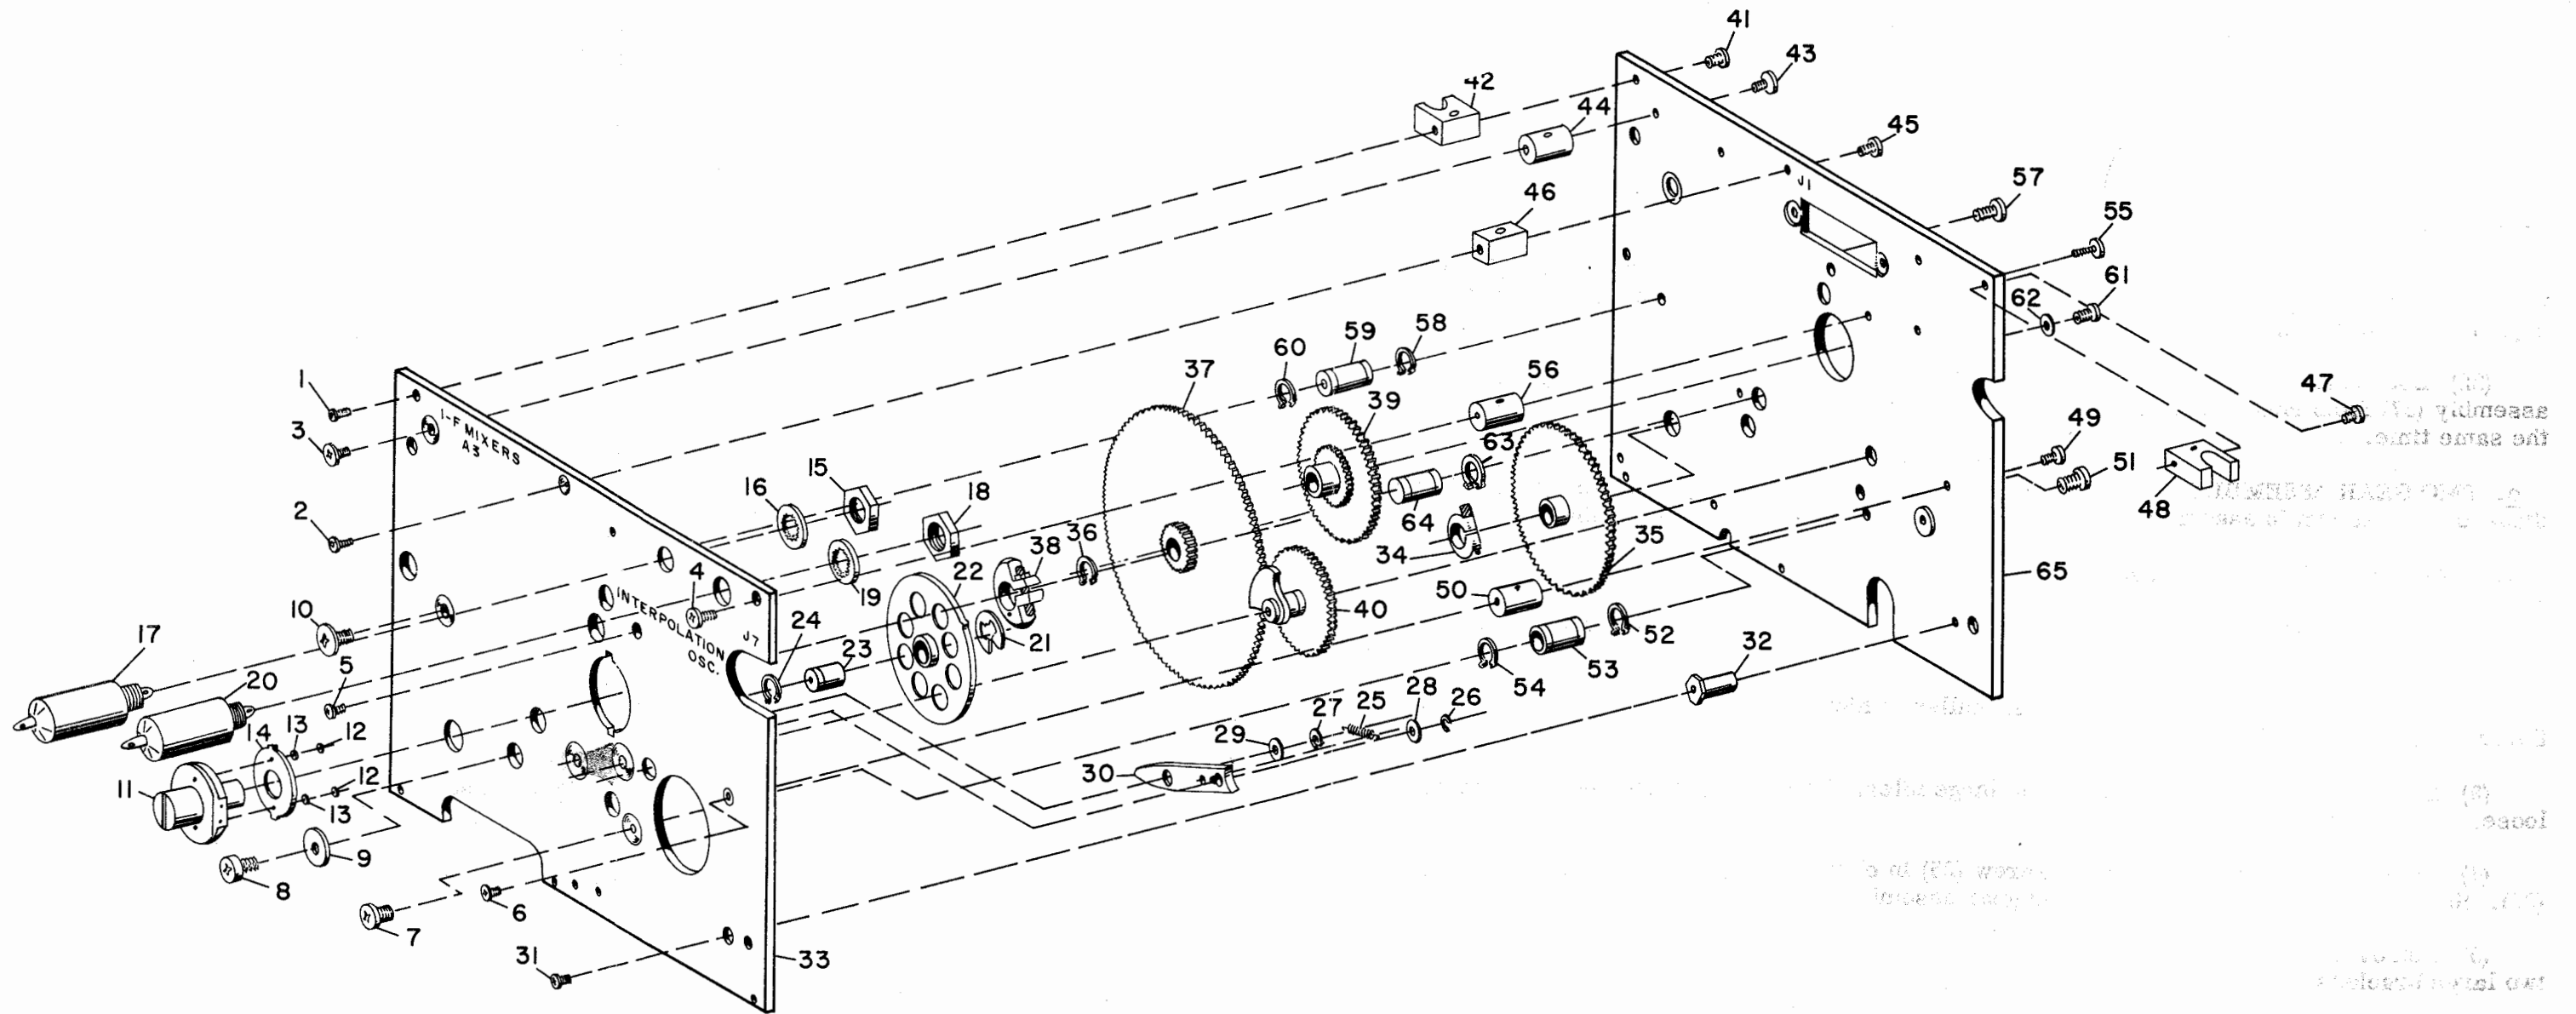
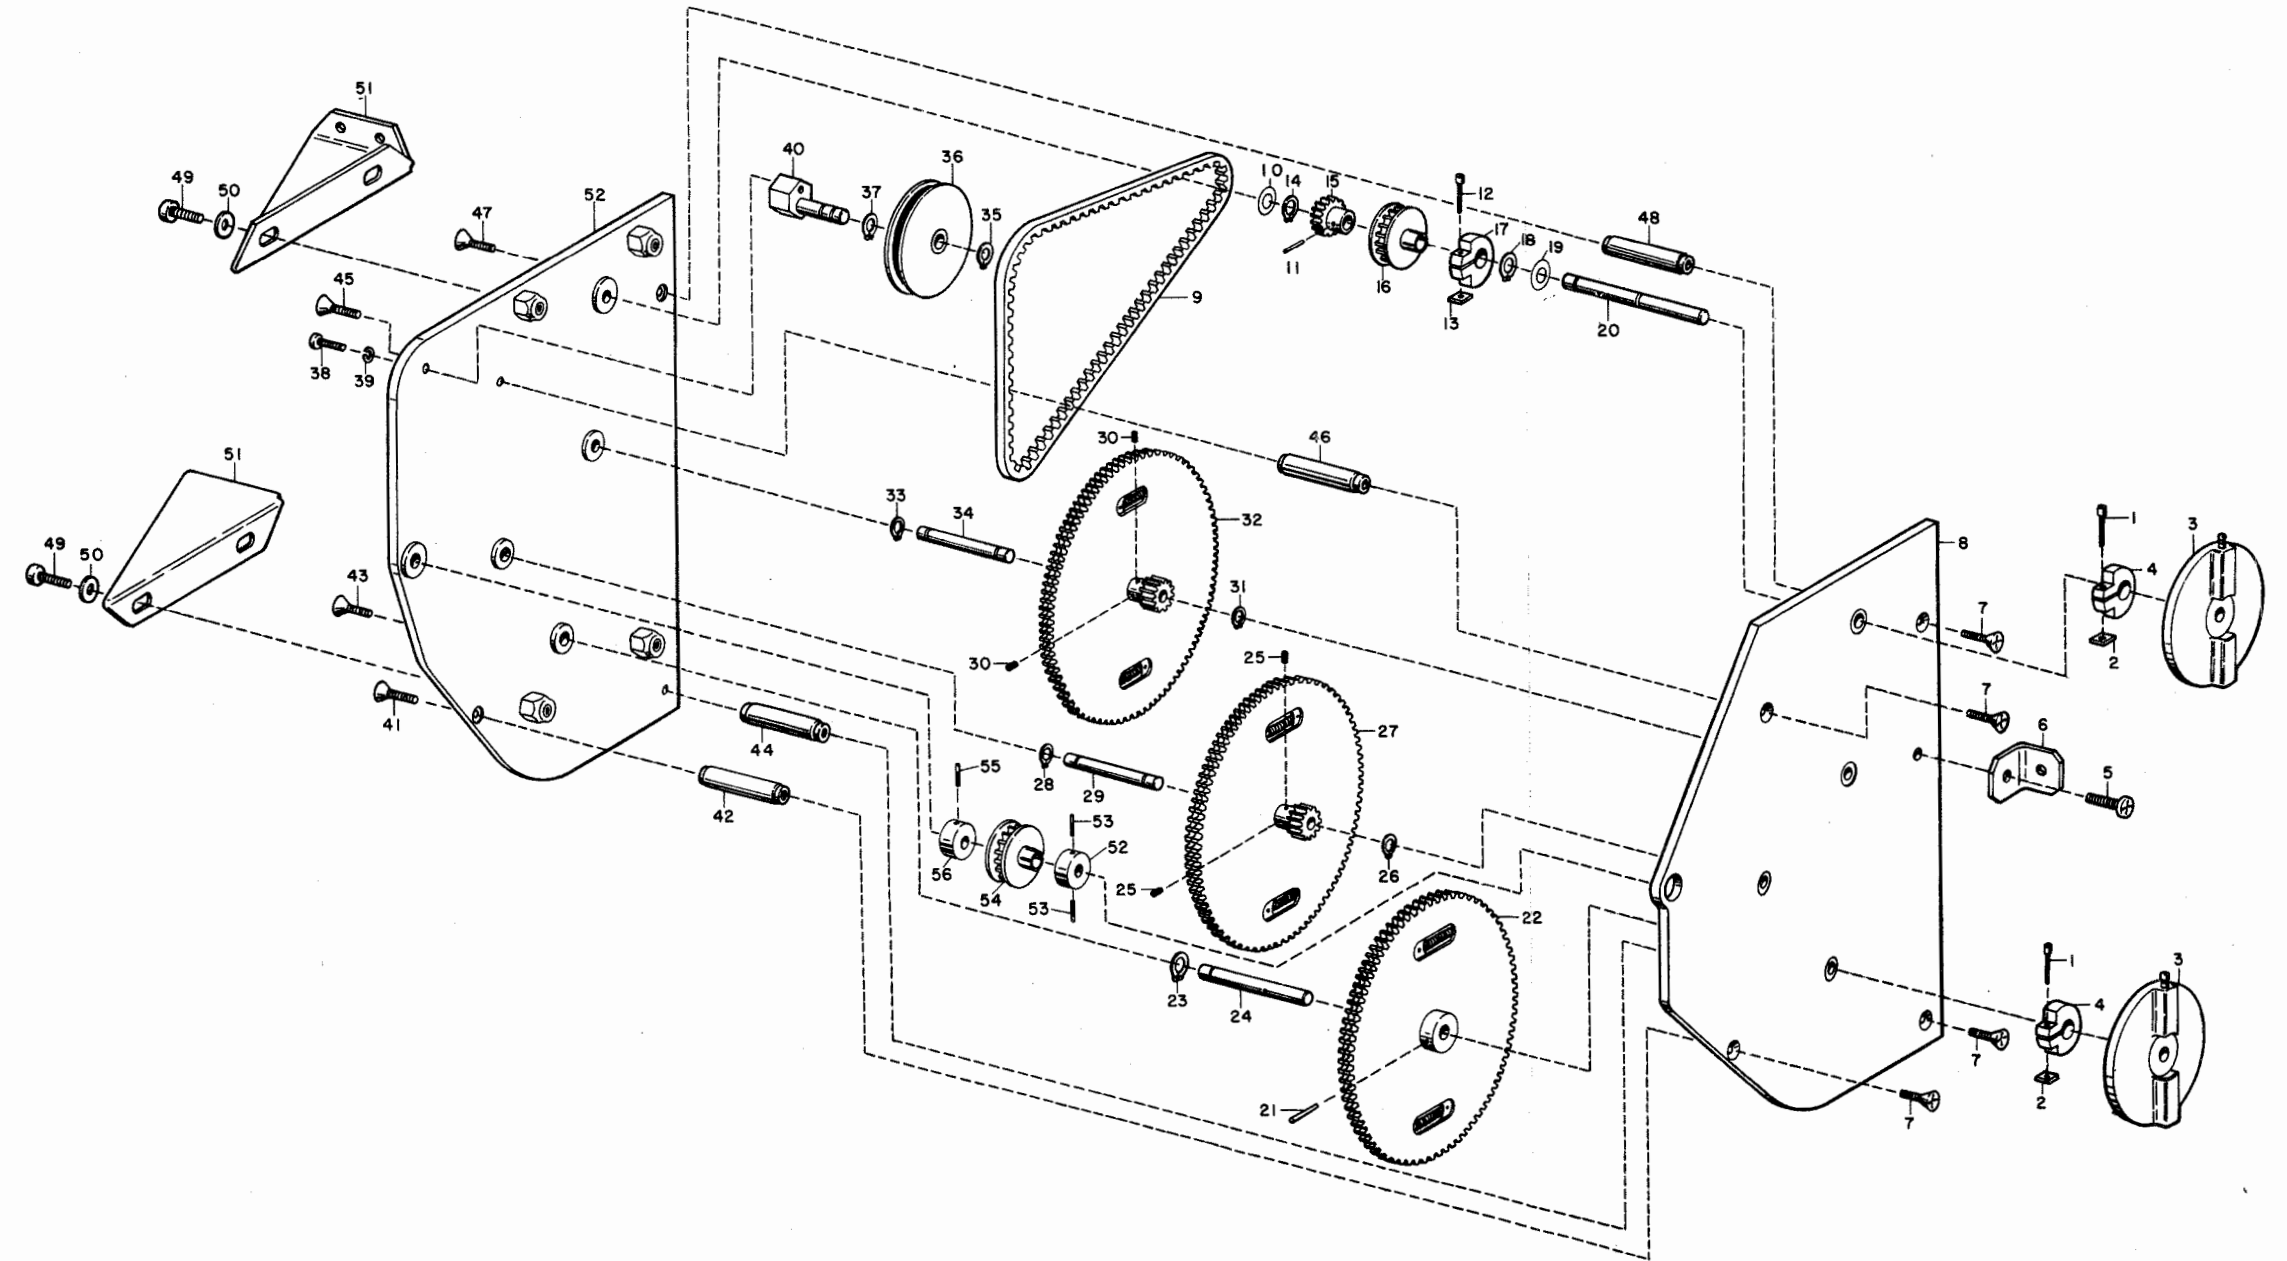
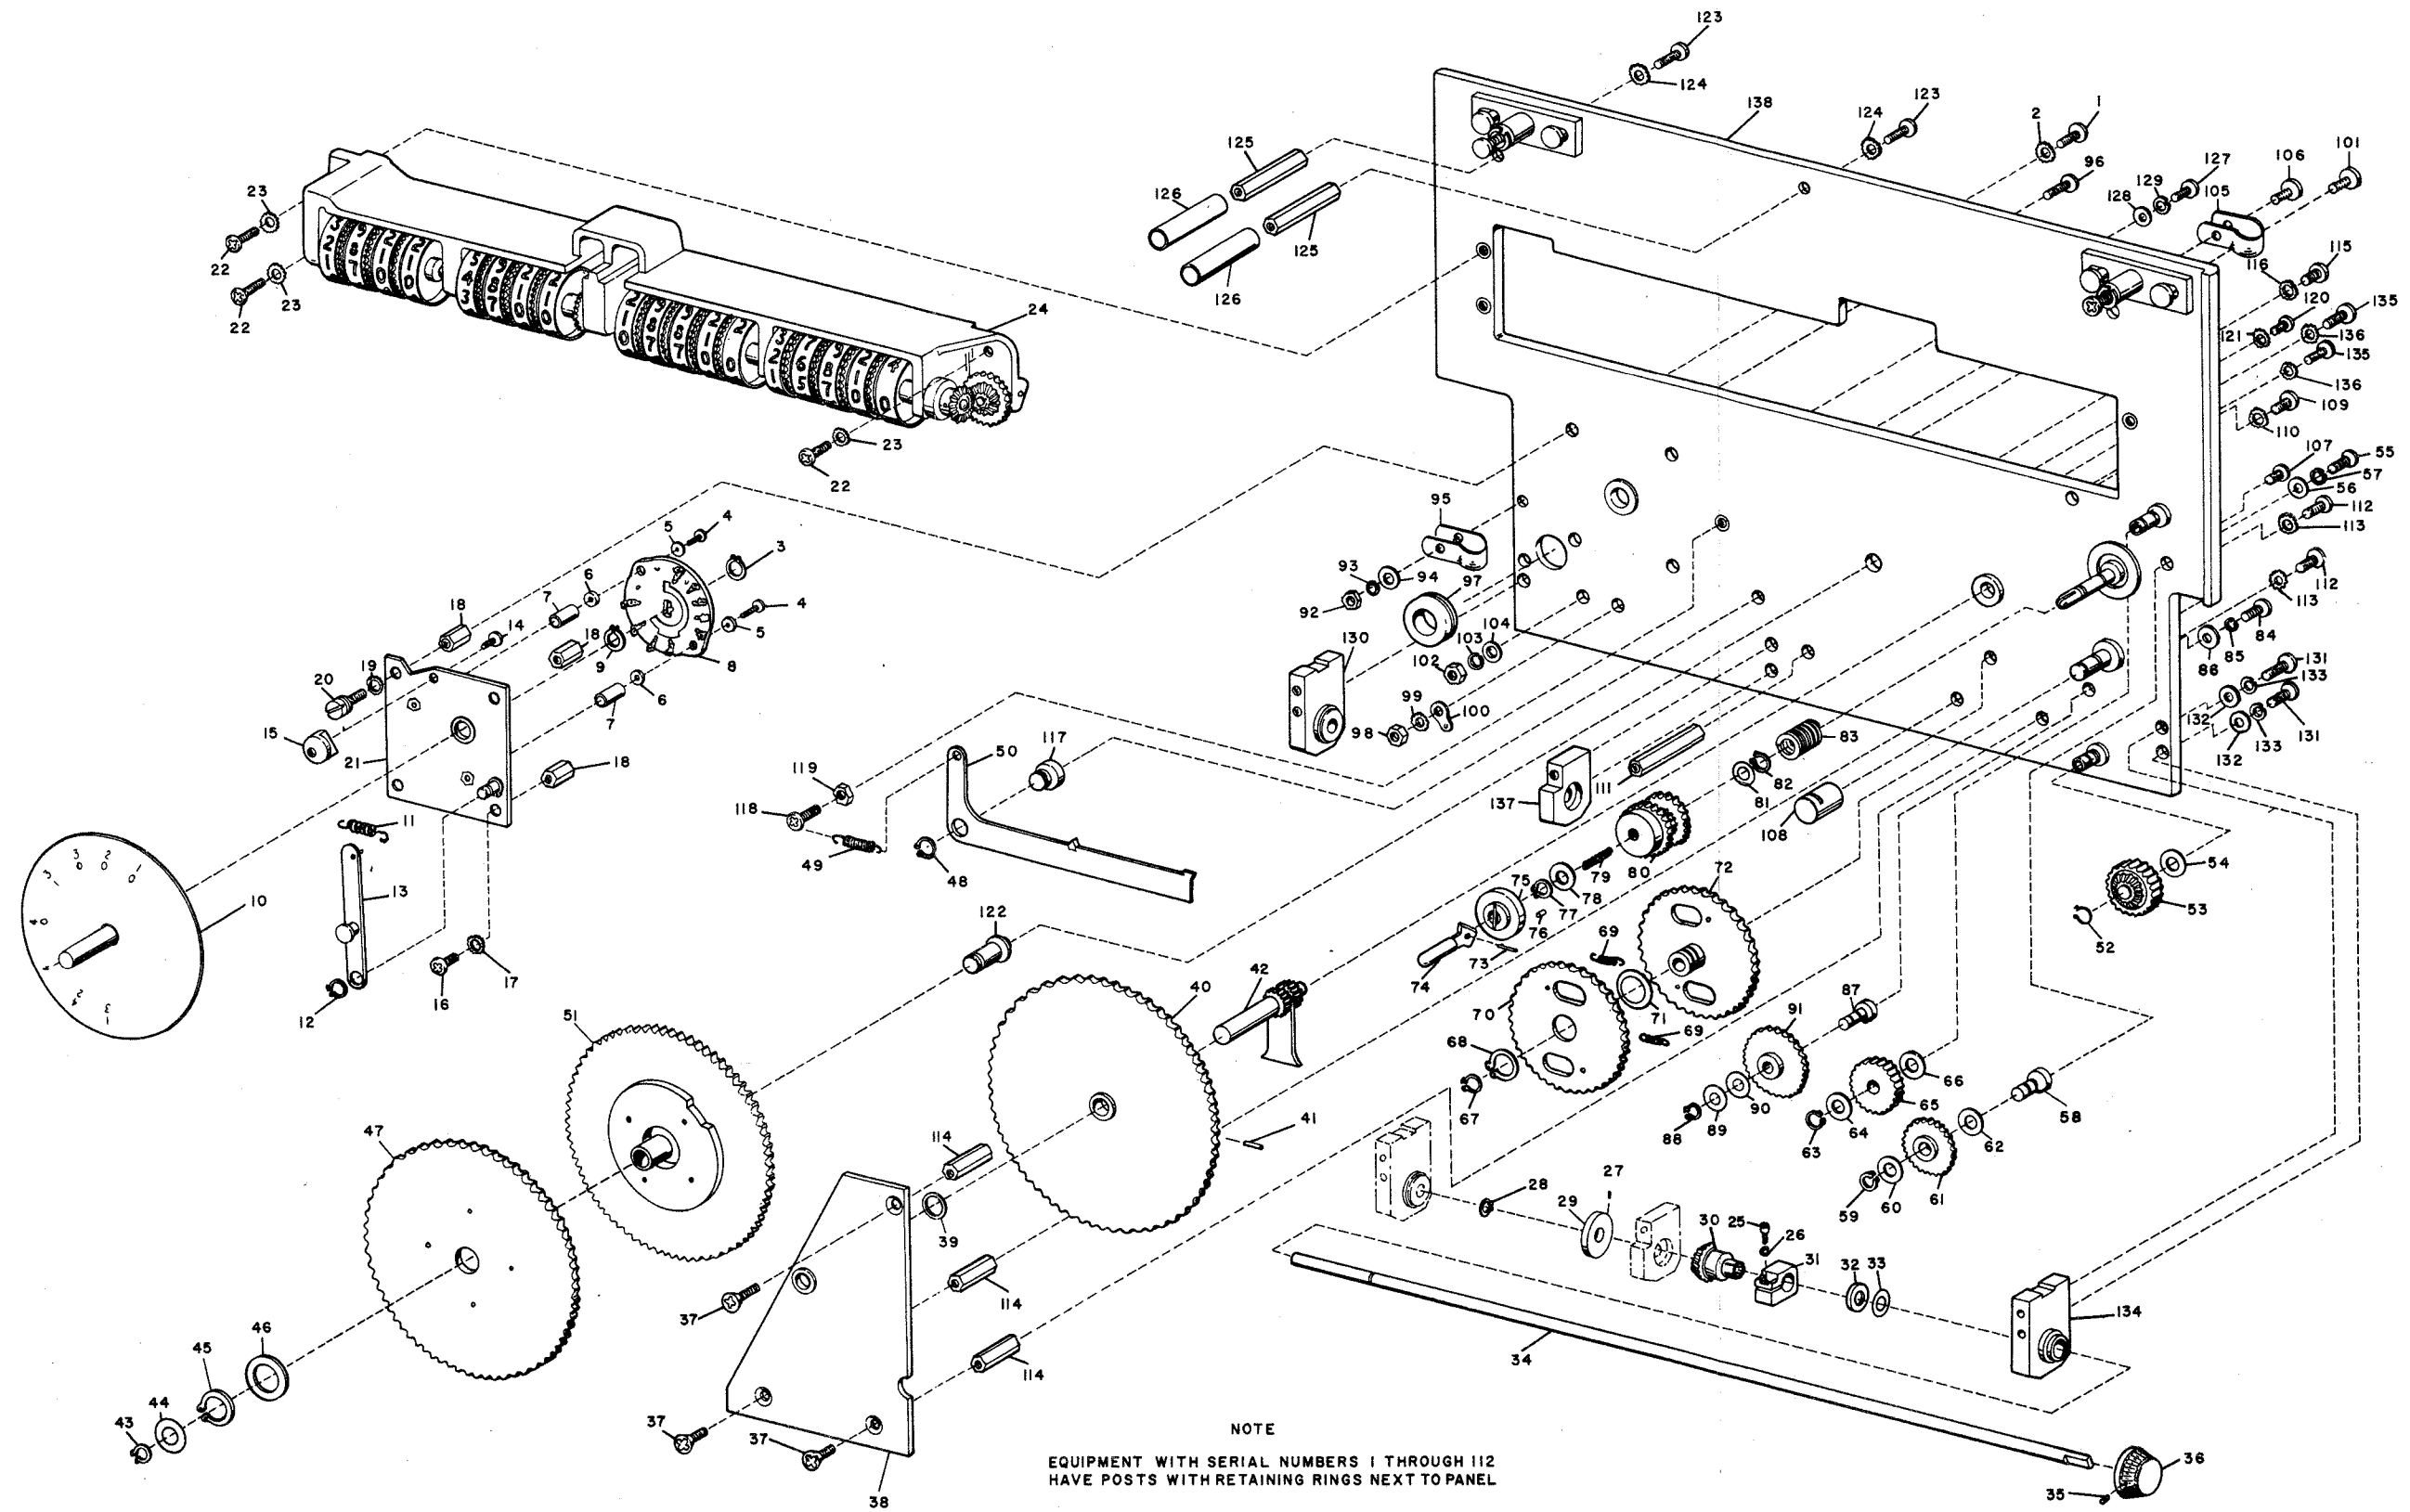

Figure 3-9. Stabilized Master Oscillator,
Figure 3-10. Stabilized Master Oscillator,
Figure 3-11. Front Panel Assembly, Exploded View
(16) Using long-nosed pliers, grip spring (41) on the tape (42) of the front slug rack drive near the hook end, and remove from tape. Remove spring (41) from tape (42) on rear rack driver.
(17) Remove the flathead screw (43) and the special nut (44) that secures the slug rack (40) to each tape (42). Remove slug rack (40) and tapes (42).
(18) Remove tube shield (45) and tube (46).
(19) Remove tube shield (47) and tube (48).
(20) Remove one binder-head screw (49) and lock washer (50) which mount left center bracket to gear plate (14).
(21) Remove the five flathead screws (51) that mount the right side plate panel (52) to the corner block (53) the block strip (20) and the rear gear plate (14). Remove the two front capacitive screws (54).
(22) Loosen clamp (55) and slide gear (56) forward off shaft while removing gear assembly (57) from chassis. Slide block (20) from between the gear plates (24) and (14) at the same time.
c. SMO GEAR ASSEMBLY. - To disassemble gear train assembly, refer to figure 3-9 and disassemble gear train assembly in order of index numbers starting with number 1.
(1) Loosen the two captive mounting screws on the sidestep oscillator and remove this unit.
(2) Loosen the two setscrews in the belt pulley, which is mounted on the drive shaft from the front panel assembly.
(3) Loosen the screws which mount the large idler. This will allow the belt to become loose.
(4) Refer to figure 3-11 and loosen screw (25) in clamp (31) and setscrew (27) in bearing (29). Slide shaft (34) from the pulley and gear assembly of the smo tuner gear train.
(5) Remove the four binder-head screws, lock washers, and flat washers that mount the two large brackets of the gear assembly to the chassis.
(6) Remove the one binder-head screw, lock washer, and flat washer that mount the small bracket to the chassis.
(7) Carefully lift gear assembly from chassis.
e. SMO TUNER GEAR ASSEMBLY. - To disassemble gear train assembly, refer to figure 3-10 and disassemble gear train assembly in order of index numbers starting with number 1.
(1) Obtain a couple of blocks and lay the Converter-Oscillator CV-731/URC on its back on the blocks. This will prevent the unit from resting on the plugs and connectors.
- (2) Loosen setscrews in DRIVER TUNE knob and PA TUNE knob. Remove knobs.
- (3) Remove the eight flathead screws that mount front panel.
- (4) Swing front panel to left; be careful not to damage cable.
g. FRONT PANEL GEAR ASSEMBLY AND COUNTER. - The front subpanel, on which the gear assembly and counter is mounted, should not be removed from the oscillator converter chassis. To remove this subpanel, it will be necessary to disconnect all wires from the components on the front panel as well as the wires to switch S1 on the subpanel. To remove the counter assembly and to disassemble gear assembly, refer to figure 3-11 and disassemble gear assembly in order of index numbers starting with number 1.